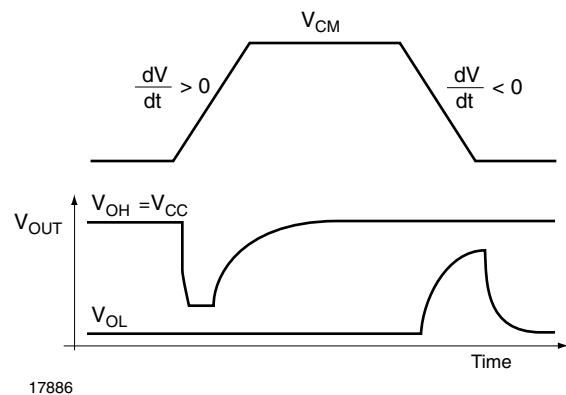

Fig. 10 - Common Mode Signal and the Distorted Output Signal
In the LED on state the above considerations are also valid (equations (5) to (8)). However, as figure 10 indicates, the critical point is now the falling edge of the transient. It can also be noticed that a fully saturated transistor improves the CMTI and makes the circuit much more robust to any transients.